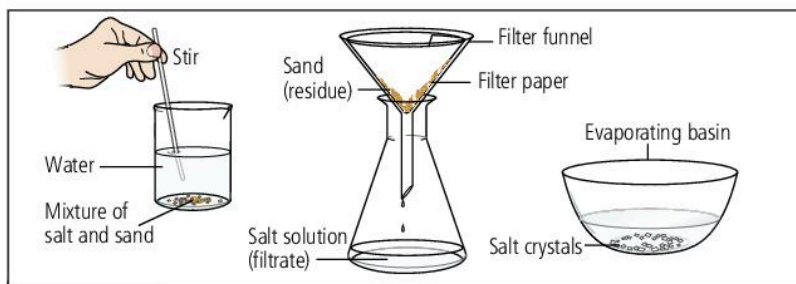

Figure 2.2.3 Separating salt from sand
- 3 the water is evaporated from the salt solution to leave salt (Figure 2.2.3).